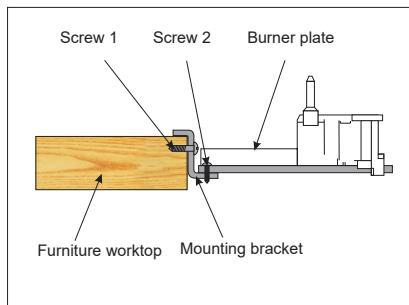
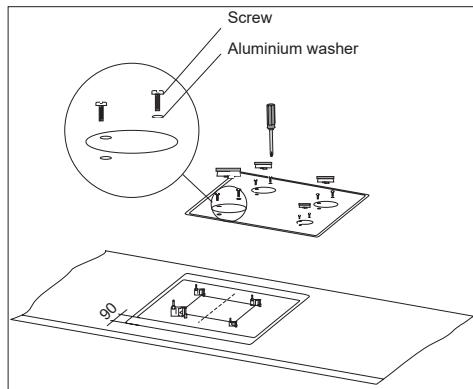
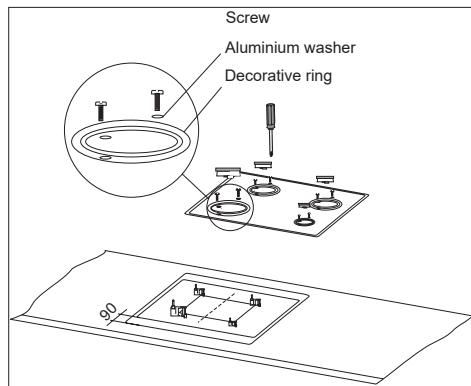

Fig.3
Fig.5
Fig.6
3. Loosen the screws No. 2, Figure 3
6. Position the burner plate to achieve 90 mm distance (Fig. 5) and using screws No. 1 (Fig. 3) fix the burner plate in worktop opening.
8. Place cooking surface on the burner plate and fasten it to the burners using 8 screws with M-3 washer (Fig. 5).
6. Position the burner plate to achieve 90 mm distance (Fig. 6) and using 4 screws No. 1 (Fig. 3) fix the burner plate in worktop opening.